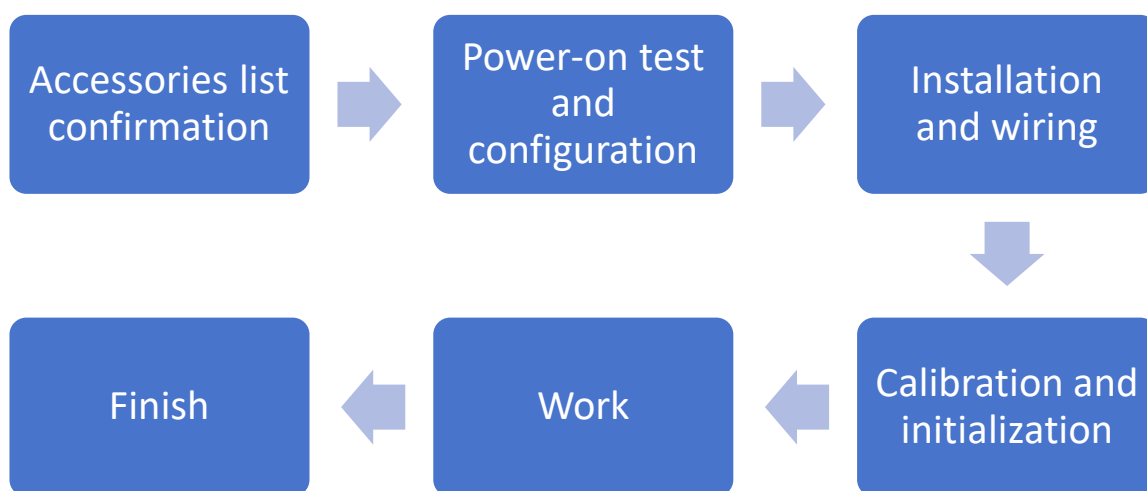

Figure 4-1 Usage Flowchart
4. Keep the vehicle moving at a steady speed (recommended above 5 m/s, not lower than 1 m/s) for 5 to 10 minutes. The recommended route is shown in Figure 4-1. If it is not possible to follow a figure-eight path, ensure that during the online calibration process, the vehicle's movement includes both straight-line driving and turning;